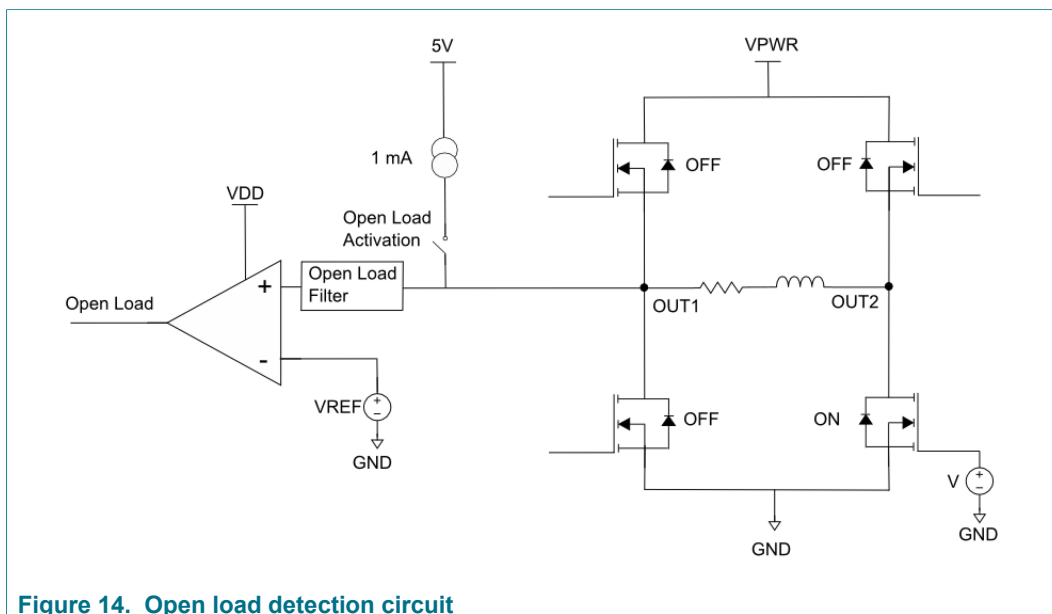

Figure 14. Open load detection circuit
2. In second stage, the circuit turns off the OUT1 low-side FET and applies an internal pull-up of 1.0 mA on OUT1 while maintaining the OUT2 low-side driver on. If the voltage on OUT1 is greater than the open load threshold after the defined filter time, an open load fault is recorded. See Figure 14 for more details. The OUT1 and OUT2 are restored to the commanded configuration after the test results are latched into the fault buffer.